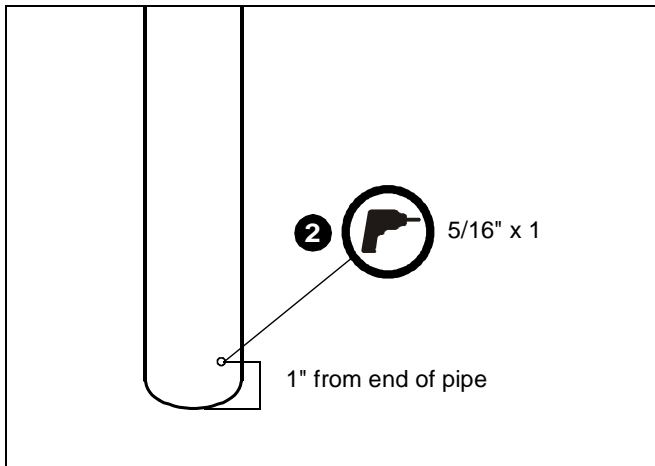

Figure 1
2. Drill a 5/16" hole 1" from end of pipe. (See Figure 1)